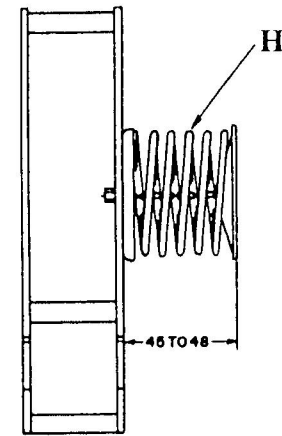

Figure 4
To wind the mainspring, compress the back spring H (Figure 4) in the hand. (Stop movement of gear-train and allow
2. Length of the small chain may not tally with requirements: it should be sufficiently long to allow a maximum expansion of the back spring from 45 to 48 mm (1.77 to 1.89 inches) from plate. (See figure 4).
When the temperature rises, the motor compresses the back spring H (Figure 4) of the clock (invisible when the motor is in place) to which the chain is fixed. When the temperature decreases, the base contracts and allows the back spring to expand.